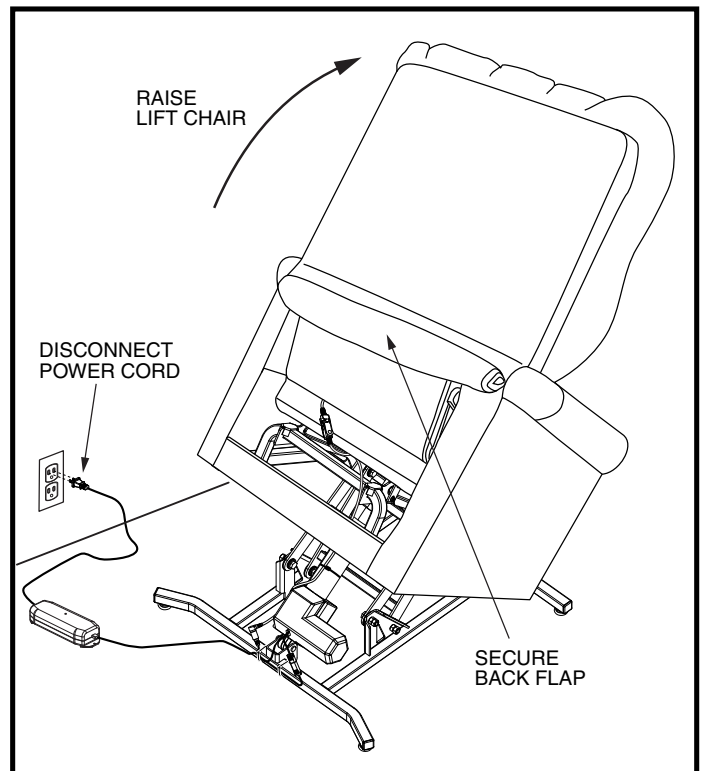

Figure 2. Preparing the Lift Chair
2. Disconnect the power cord from the electrical outlet. **See figure 2.**
3. Roll up and secure the back flap of the lift chair to ensure it does not hinder the installation. **See figure 2.**